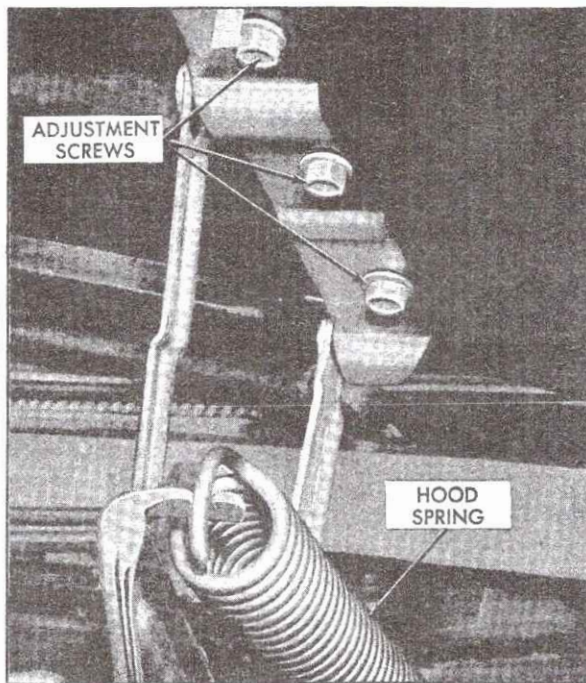

Fig. 11-3 Hood Hinge
#### a. Removal (Figs. 11-3 and 11-9)
#### b. Installation (Figs. 11-3 and 11-9)
1. Loosen hood attaching screws, three at each hood hinge, Fig. 11-3. Elongated holes in hinge provide fore, aft, and side adjustment of hood.
#### a. Removal (Fig. 11-3)
#### b. Installation (Fig. 11-3)